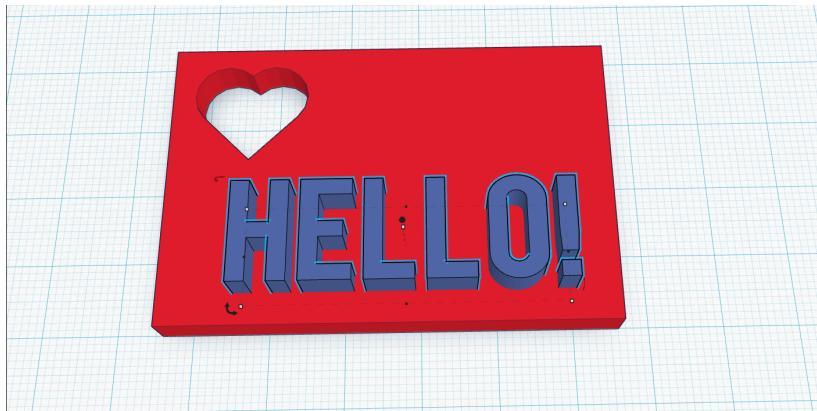

Figure 9-22. Resized “Hello!” placed on the nameplate
4. Drag the text into your nameplate (the rectangle) and resize if necessary as shown in Figure 9-22.